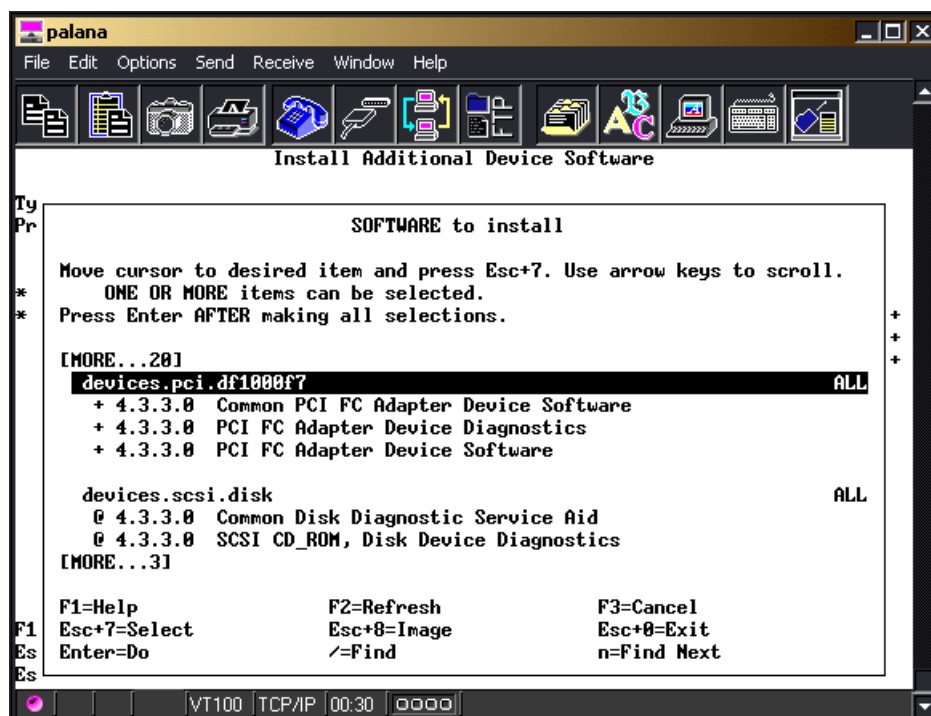

Figure 5-2 Example of device driver software selection on AIX platform
6. Type the following: `devices.pci.df1000f7`, and press **Enter**. The system will find and highlight the device driver software as shown in Figure 5-2.